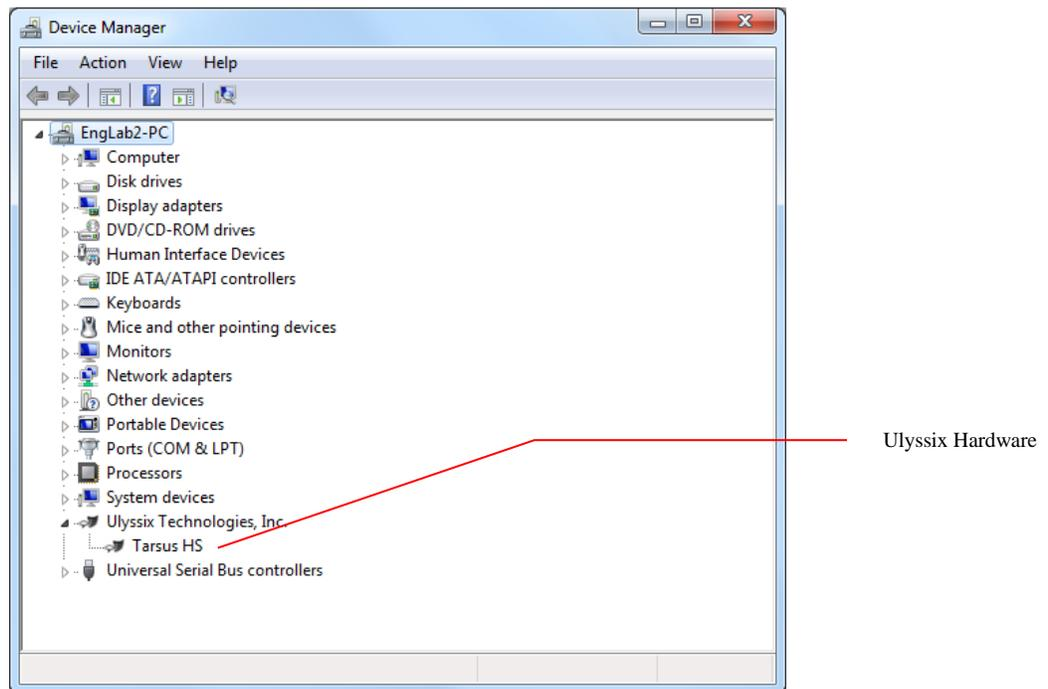

Figure 191 – Device Manager Ulyssix Driver
6. If your system is running the Ulyssix driver, open the Ulyssix Technologies, Inc folder in the hardware list. The display should look similar to **Figure 191 – Device Manager Ulyssix Driver**.